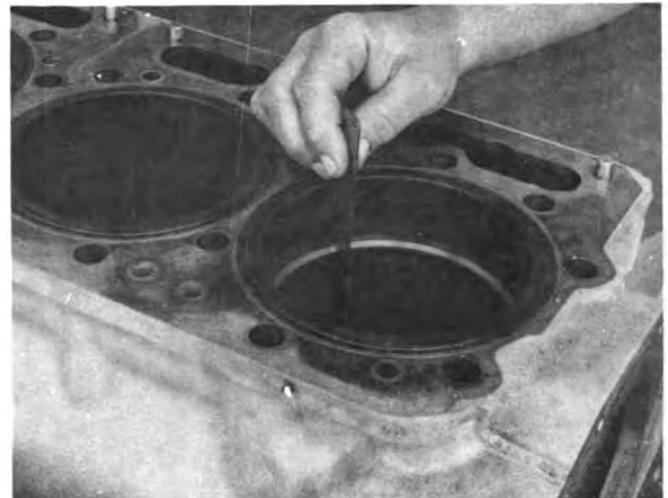

Fig. 1-63 (V40135). Check The Gap Of The Piston Ring.
2. Measure the ring gap with a feeler gauge, Fig. 1-63. The ring gap must be within the limit given in Table 9.